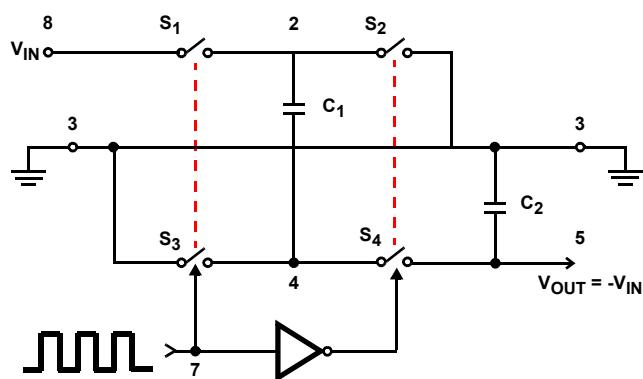
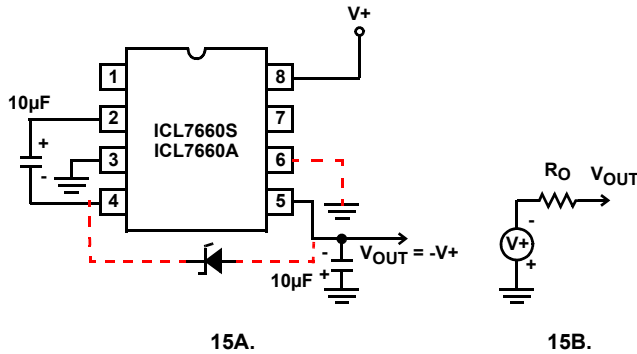
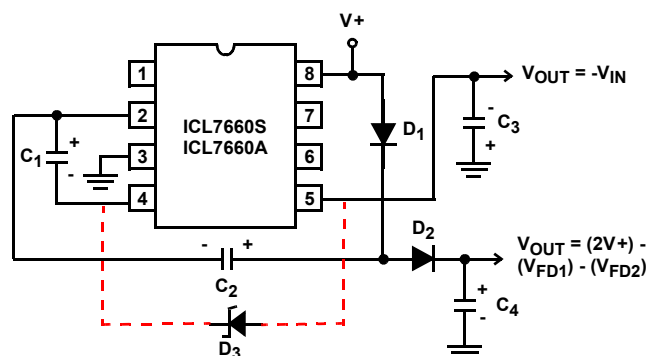

FIGURE 14. IDEALIZED NEGATIVE VOLTAGE CONVERTER
FIGURE 15. SIMPLE NEGATIVE CONVERTER AND ITS OUTPUT EQUIVALENT
FIGURE 19. COMBINED NEGATIVE VOLTAGE CONVERTER AND POSITIVE DOUBLER
The ICL7660S and ICL7660A contain all the necessary circuitry to complete a negative voltage converter, with the exception of two external capacitors, which may be inexpensive 10 μ F polarized electrolytic types. The mode of operation of the device may best be understood by considering Figure 14, which shows an idealized negative voltage converter. Capacitor C_1 is charged to a voltage, V_+ , for the half cycle, when switches S_1 and S_3 are closed. (Note: Switches S_2 and S_4 are open during this half cycle). During the second half cycle of operation, switches S_2 and S_4 are closed, with S_1 and S_3 open, thereby shifting capacitor C_1 to C_2 such that the voltage on C_2 is exactly V_+ , assuming ideal switches and no load on C_2 . The ICL7660S and ICL7660A approach this ideal situation more closely than existing non-mechanical circuits.
In the ICL7660S and ICL7660A, the four switches of Figure 14 are MOS power switches; S_1 is a P-Channel device; and S_2 , S_3 and S_4 are N-Channel devices. The main difficulty with this approach is that in integrating the switches, the substrates of S_3 and S_4 must always remain reverse biased with respect to their sources, but not so much as to degrade their "ON" resistances. In addition, at circuit start-up, and under output short circuit conditions ($V_{OUT} = V_+$), the output voltage must be sensed and the substrate bias adjusted accordingly. Failure to accomplish this would result in high power losses and probable device latch-up.
where V_1 and V_2 are the voltages on C_1 during the pump and transfer cycles. If the impedances of C_1 and C_2 are relatively high at the pump frequency (see Figure 14) compared to the value of R_L , there will be a substantial difference in the voltages, V_1 and V_2 . Therefore it is not only desirable to make C_2 as large as possible to eliminate output voltage ripple, but also to employ a correspondingly large value for C_1 in order to achieve maximum efficiency of operation.
The majority of applications will undoubtedly utilize the ICL7660S and ICL7660A for generation of negative supply voltages. Figure 15 shows typical connections to provide a negative supply where a positive supply of +1.5V to +12V is available. Keep in mind that pin 6 (LV) is tied to the supply negative (GND) for supply voltage below 3.5V.
The output characteristics of the circuit in Figure 15 can be approximated by an ideal voltage source in series with a resistance as shown in Figure 15B. The voltage source has a value of $-(V_+)$. The output impedance (R_O) is a function of the ON resistance of the internal MOS switches (shown in Figure 14), the switching frequency, the value of C_1 and C_2 , and the ESR (equivalent series resistance) of C_1 and C_2 . A good first order approximation for R_O is shown in Equation 2:
Figure 19 combines the functions shown in Figure 15 and Figure 18 to provide negative voltage conversion and positive voltage doubling simultaneously. This approach would be suitable, for example, for generating +9V and -5V from an existing +5V supply. In this instance, capacitors C_1 and C_3 perform the pump and reservoir functions, respectively, for negative voltage generation, while capacitors C_2 and C_4 are pump and reservoir, respectively, for the doubled positive voltage. There is a penalty in this configuration which combines both functions, however, in that the source impedances of the generated supplies will be somewhat higher, due to the finite impedance of the common charge pump driver at pin 2 of the device.
resistor to the LV pin ensures start-up. Because the switches share the load in parallel, the output impedance is much lower than in the standard circuits, and higher currents can be drawn from the device. By using this circuit, and then the circuit of Figure 15, +15V can be converted, via +7.5 and -7.5, to a nominal -15V, although with rather high series output resistance (~250Ω).